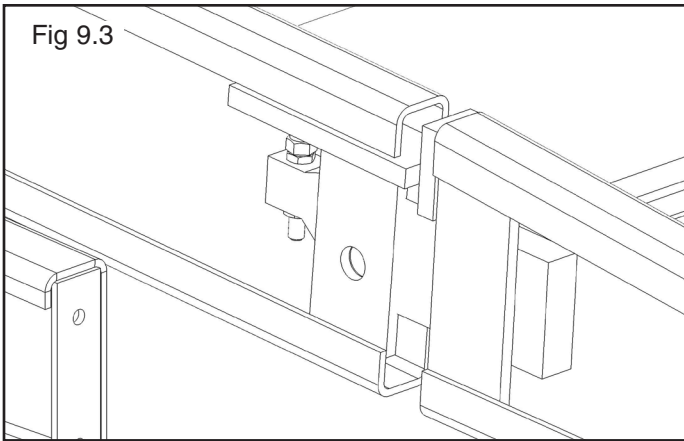

Fig 9.3
- Lift the Drive-Up Ramp Weldment and align the thru holes of the Drive-Up Ramp bars to the Ramp Assembly. The bars should slide in between the strap and the ramp channel on both Ramp Channels. (See Fig 9.3)